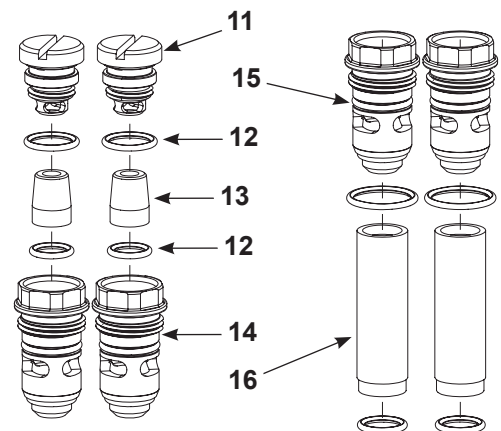

Figure 24 Assemble Fittings to Fluidizing Tubes
4. See Figure 24. Assemble the check valves (13) O-rings (12) access plugs (14), and fitting caps (11) together before replacing the fluidizing tubes (16). Then, once that is complete, assemble the complete access plugs (15) and additional O-rings onto the fluidizing tubes (16).